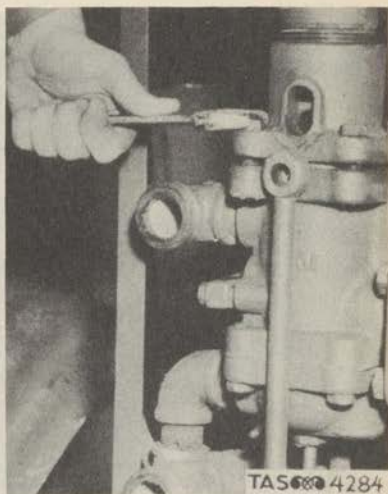

Figure 275. Removal of Upper Head Bolts.
(7) Remove the bolts from the upper head. (Fig. 275)